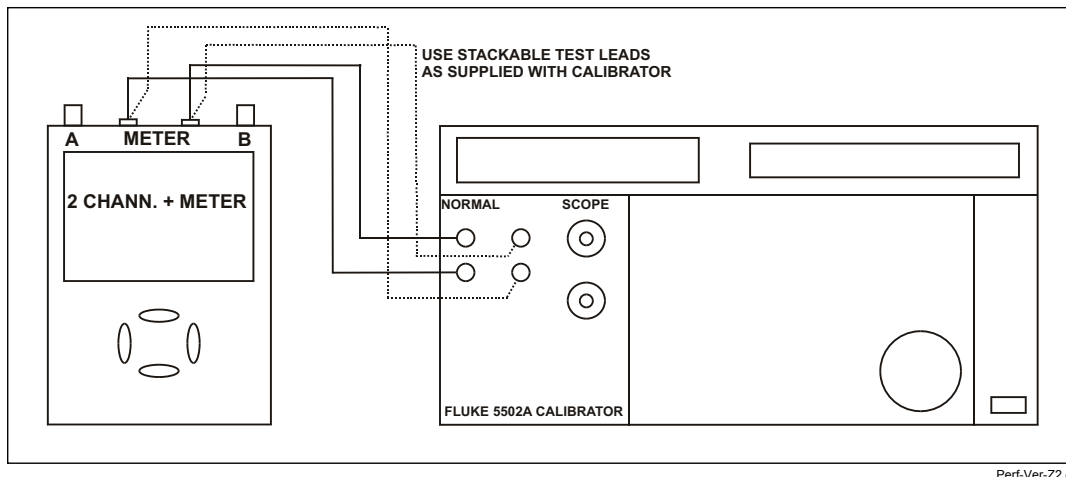

Figure 5-18. Four-wire Ohms Calibration Connections
2. Connect the Test Tool to the 5502A as shown in Figure 5-18. Notice that the sense leads must be connected directly to the Test Tool.